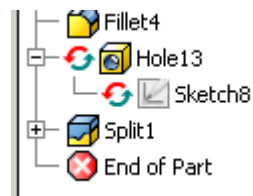

Figure 4-5: Adaptive Feature and Sketch
- If a sketch is created in the context of an assembly, this will cause the part to be “adaptive” (see Figure 4-5.) You must then go back into the part, turn off the adaptivity of the sketch, delete the constraints to the assembly, and dimension the sketch as usual. When a sketch remains tied to an assembly, the part can change unintentionally when the components in the assembly move.